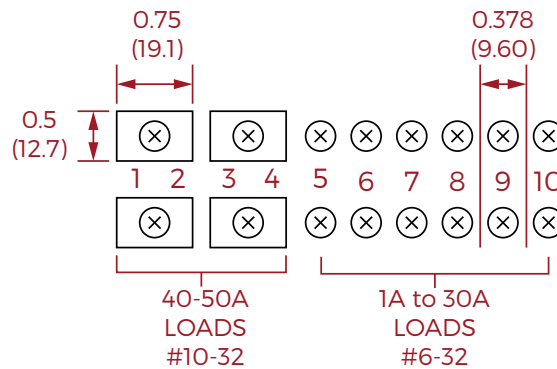

Figure 11. Output Barrier Strip Detail
9.4 Output Connections. Output connections for A and B loads are shown in Figure 11. There are 10 sets of barrier terminal strip connections for each side, A and B. The connections are numbered to correspond with the numbers of the front panel breakers. The upper strip connections are from the battery through the breakers; the lower strip connections are the returns. Side B is on the left and side A on the right, as shown.